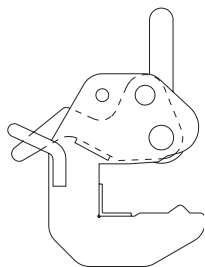

Fig. 34.3
1. Open the safety lever as far as possible (Fig. 34.3).